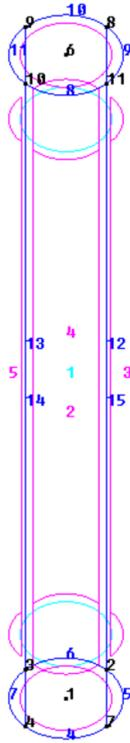

Figure 10: Volume and surfaces resulting from the extrusion of the base.
10. Click on the pink oval labeled surface number 1, then Hit **<Esc>** to end the selection of surfaces and complete the extrusion. Close the Copy dialog box and label all entities to see the 4 newly formed surfaces shown in pink and the volume shown in light blue and labeled as volume 1 (Figure 10). Use **File | Save as** to save your model under the name **Cylinder.gid**.